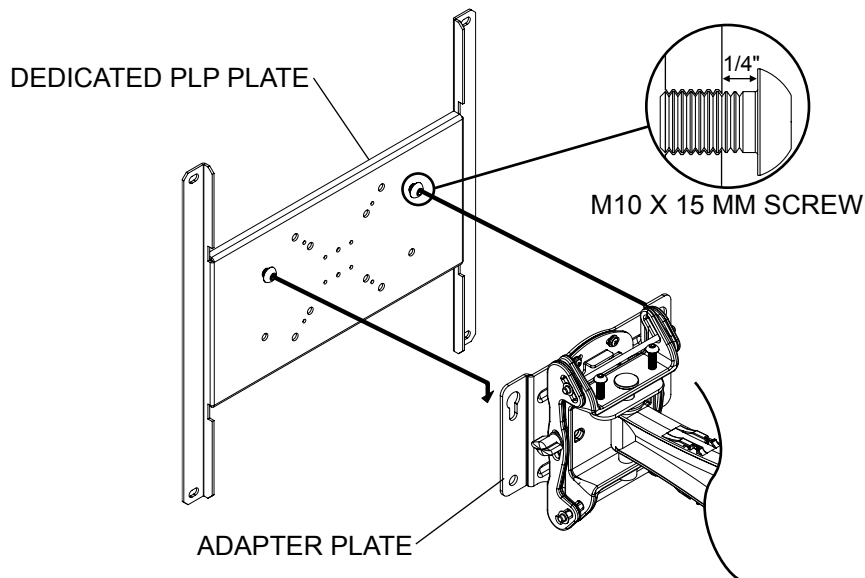

fig. 3.1
- 3** **NOTE:** Refer to PLP model instruction sheet for attachment of dedicated PLP plate to screen. Install two M10 x 15 mm screws (provided with dedicated PLP plate) into top two holes of dedicated PLP plate leaving 1/4" of exposed thread as shown in figure 3.1.